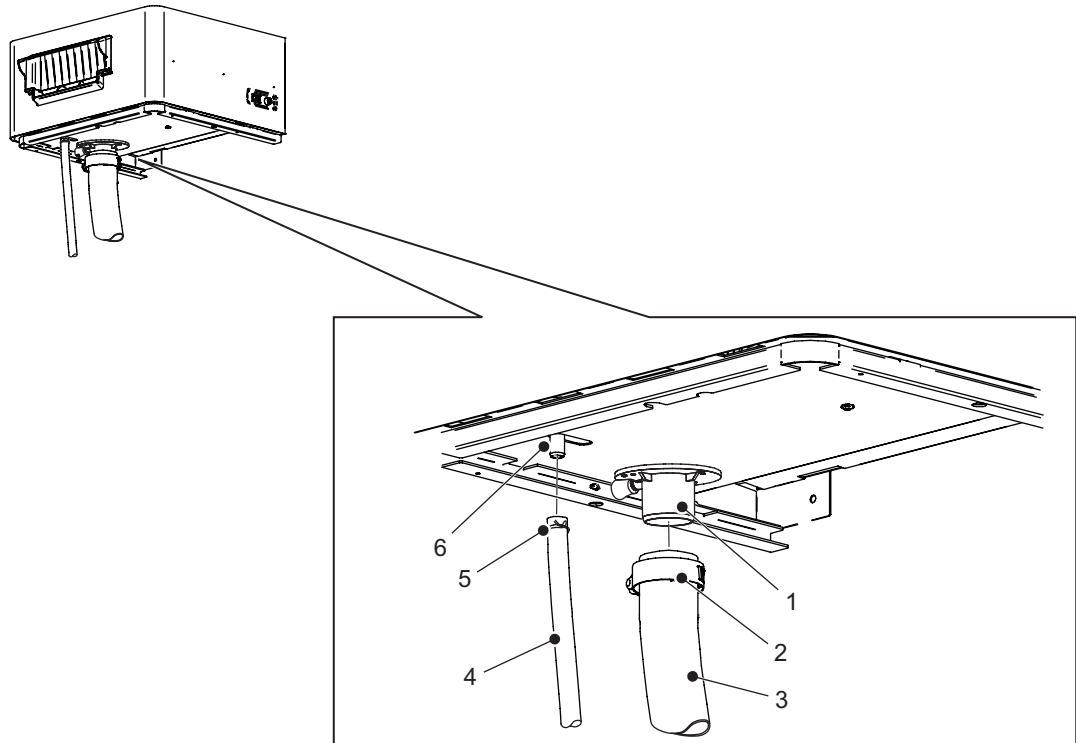

Figure 12: Hose Connections on Blower Pack
- Secure the steam hose (supplied by others) to the steam adapter with a hose clamp (supplied). Do not over-tighten the hose clamp – maximum torque is 180 N·cm. Refer to Figure 12.